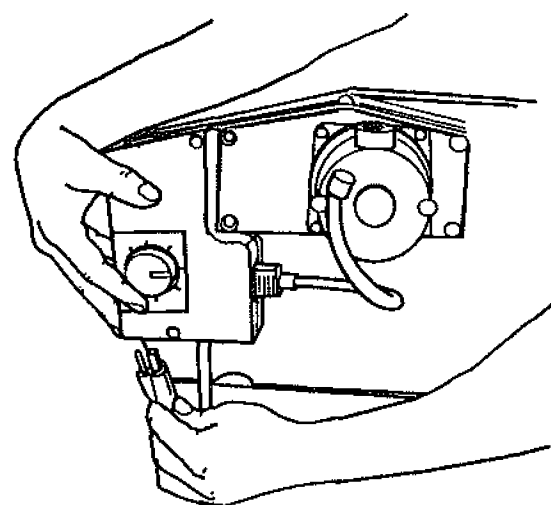

Fig. 47
58. Plug in the cutterhead motor's cord into the **bottom** of the control box, as shown in Fig. 47.